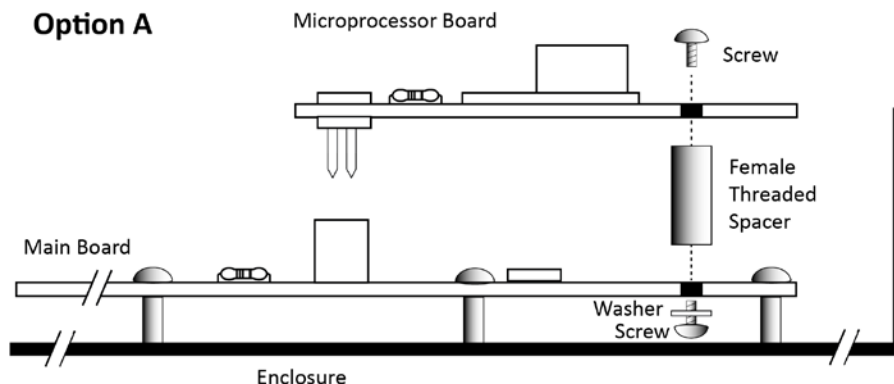

Figure 3. Option A Installation
- b. Attach the threaded standoff to the top of main board by routing one of the screws up through the underside of the main board and securing it to the standoff. Use Figure 3 as a guide.